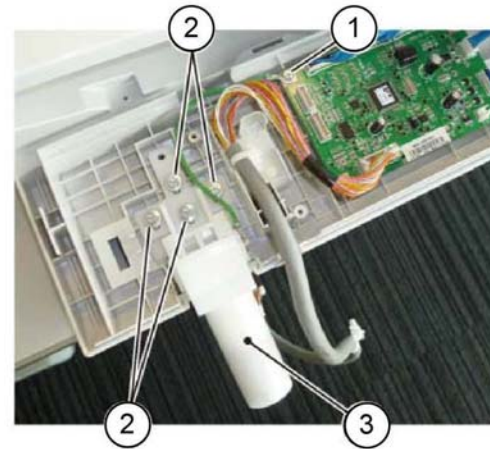

Figure 2 Counter balance removal
4. Remove the right counter balance, Figure 2:
- a. Disconnect the ground wire (1).
- b. Remove four screws (2).
- c. Remove the right counter balance (3).